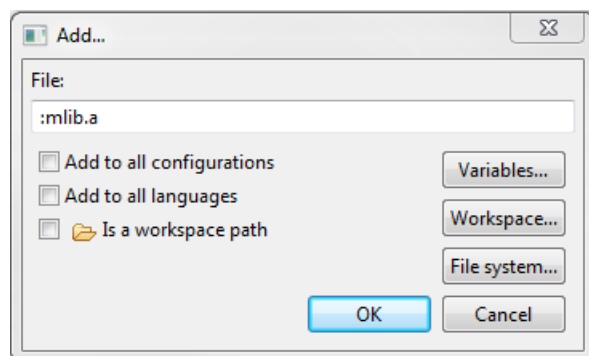

Figure 1-8. Library file inclusion
13. Type the following into the File text box (see Figure 1-8): `:mlib.a`